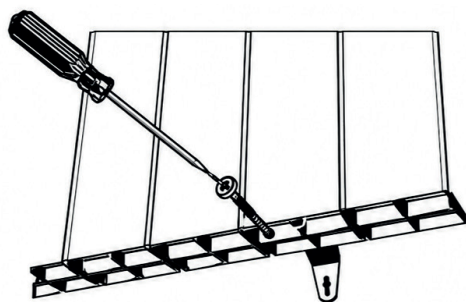

Fig11
7. Insert the two plugs and secure with the two screws (B) to completely secure the heater to the wall. (Figure 11).